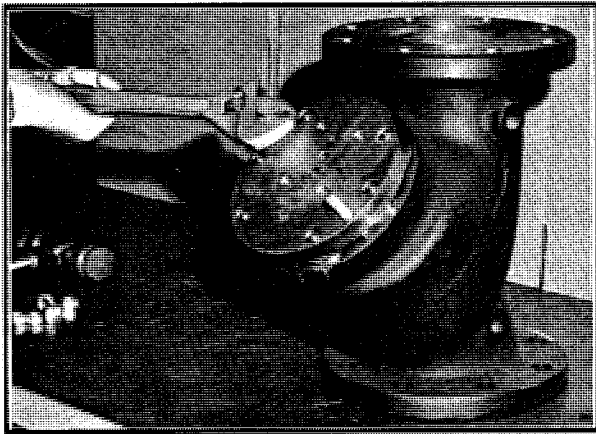

Figure 3-12 - Alternately Tightening Jack Screws
1. Remove nuts (Item 32). The entire cylinder assembly, including seat ring, may now be removed as a unit by utilizing the two (2) jack screws (Item 31) provided in the cylinder head. Reference Figure 3-12.